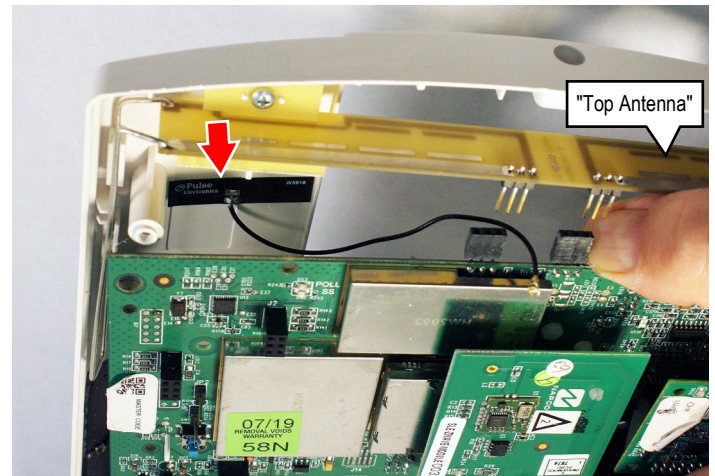

Fig. 3: Carefully lift the motherboard. Note the location of the Antenna Board's "top edge" (arrow) .
- **With the top edge of the Antenna Board facing up**, secure the antenna adhesive to the interior plastic, as shown in Fig. 3.